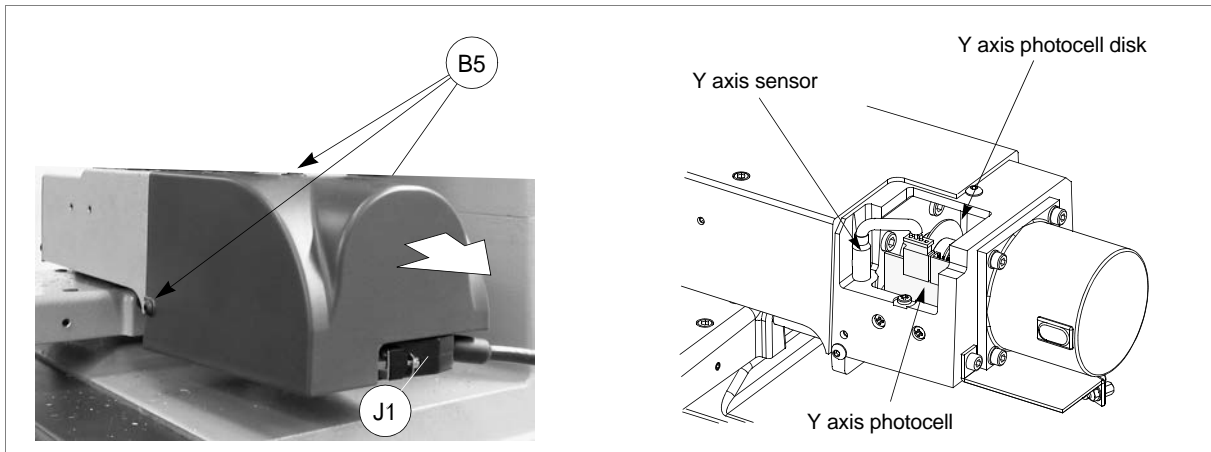

Fig. 118
- 5) disconnect the (J1) Y axis cable from the carriage (fig. 118).
- 6) unscrew the 3 (B5) fixing screws and remove the Y axis protective cover by pulling it in the direction shown in fig. 118.
- 8) plug the Y axis (J1) cable (fig. 118) and the machine's power supply cable back into place.